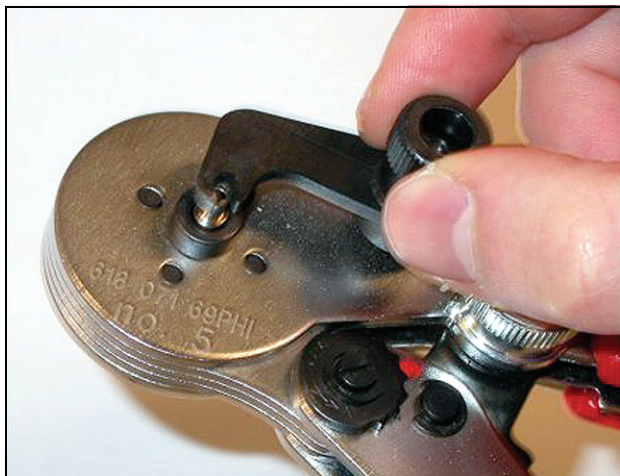

figure 30.22: Locking a ferrule
- 20 Lock the ferrule with the small lever (see figure 30.22).